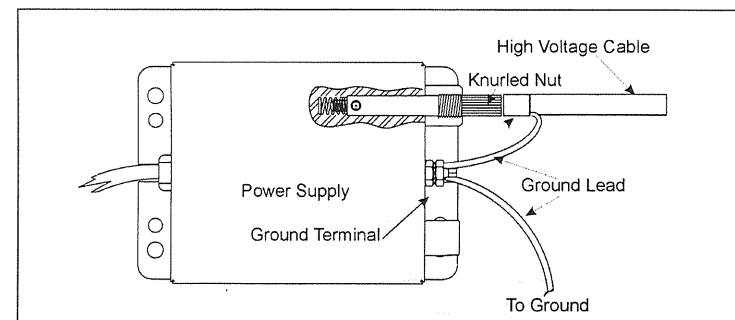

Figure 17
5. Connect a ground wire to the ground terminal of the power supply. (See Figure 17 for ground terminal location)
3. For “D” connect ground wire to ground terminal of power supply. For TrueAC, connect shield wire to shield terminal of power supply (see Figures 17 and 18)